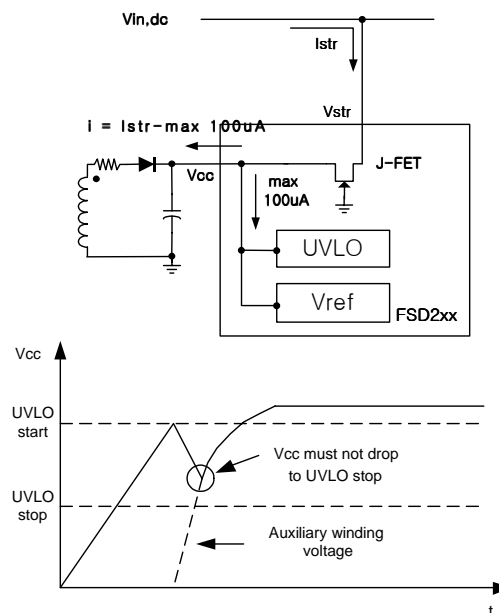

Figure 7. Charging the Vcc capacitor through Vstr
1. Startup : At startup, the internal high voltage current source supplies the internal bias and charges the external Vcc capacitor as shown in figure 7. In the case of the FSD210, when Vcc reaches 8.7V the device starts switching and the internal high voltage current source is disabled (see figure 1). The device continues to switch provided that Vcc does not drop below 6.7V. For FSD210, after startup, the bias is supplied from the auxiliary transformer winding. In the case of FSD200, Vcc is continuously supplied from the external high voltage source and Vcc is regulated to 7V by an internal high voltage regulator (HVReg), thus eliminating the need for an auxiliary winding (see figure 2).